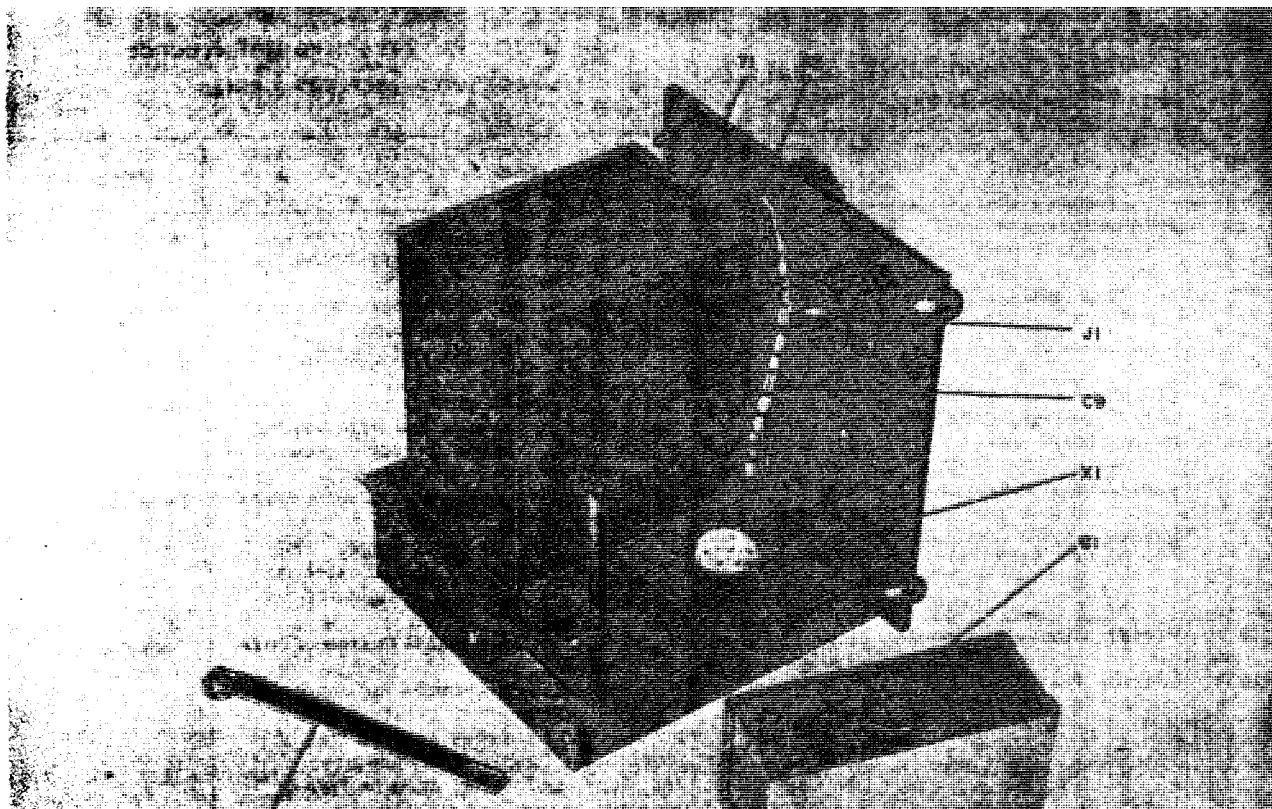

Figure 4. Inverter, Vibrator PP-1703/U, vibrator removed.
(2) Remove the vibrator holddown channel (fig. 4) and pull vibrator G1 out of socket X1.
(3) Insert a new vibrator (G1) into socket X1 and secure it in position with the vibrator holddown channel.
(4) Slide the chassis assembly into the case and secure it in position with the four panel attachment screws.